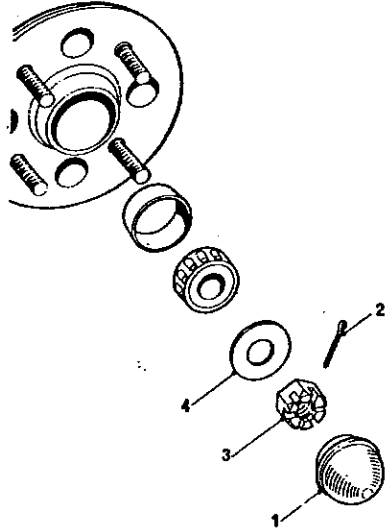

Fig. 42. Front Hub Greasing
3. Referring to fig. 42 prise off the grease cap (1), withdraw the split pin (2), unscrew the slotted nut (3) and remove the 'G' washer (4) and pull the hub assembly from the stub axle.